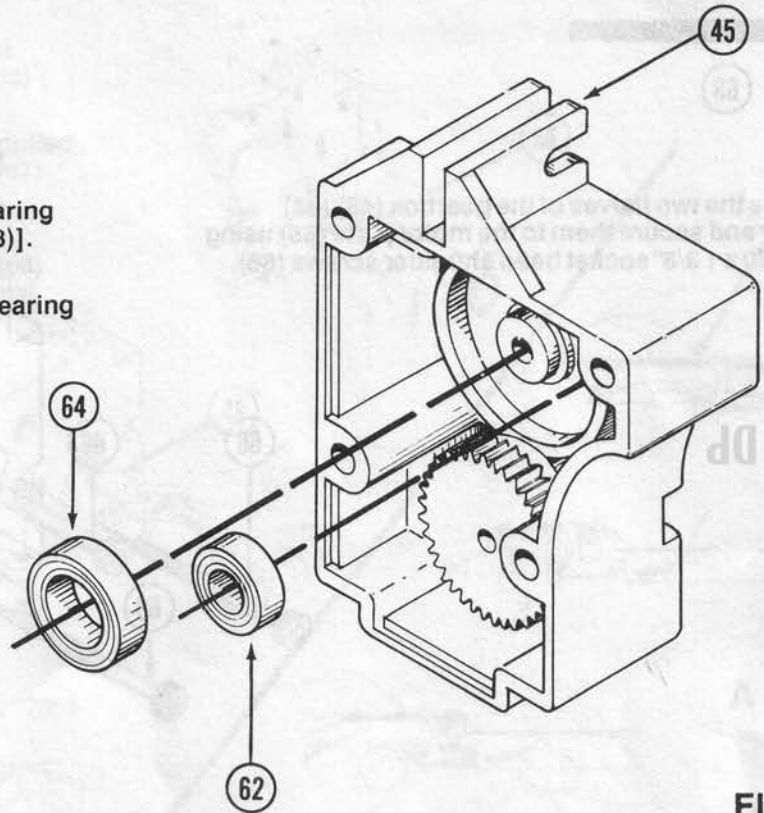

FIG. 23
27. Insert $3/16" \times 3/8"$ bearings (62) into upper bearing seats in both sides of gearbox [Right (45), Left (63)]. Fig. 23.
28. Press $5/16" \times 1/2"$ bearings (64) onto middle bearing seats of both side of gearbox (45)(63). Fig. 23.